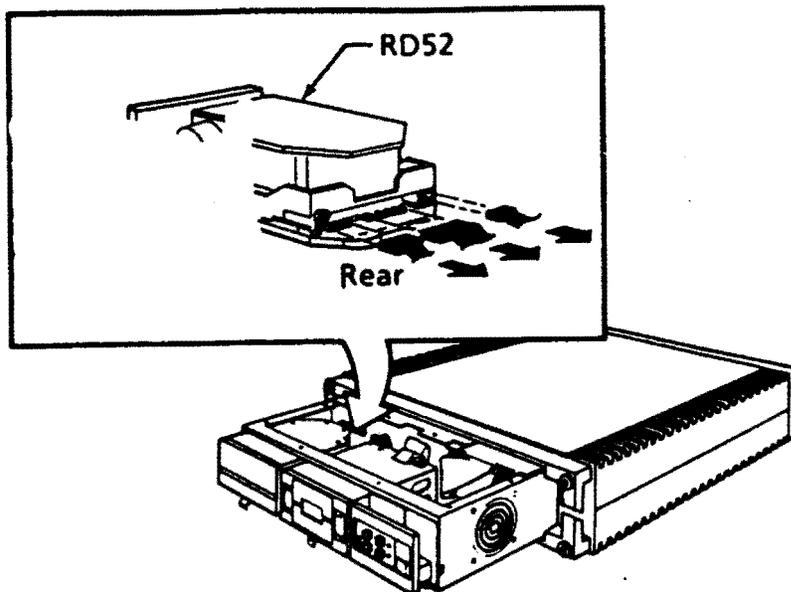

Figure 4-12: RD52 Cable Removal
2. Disconnect the dc power and two signal cables from the drive (Figure 4-12).